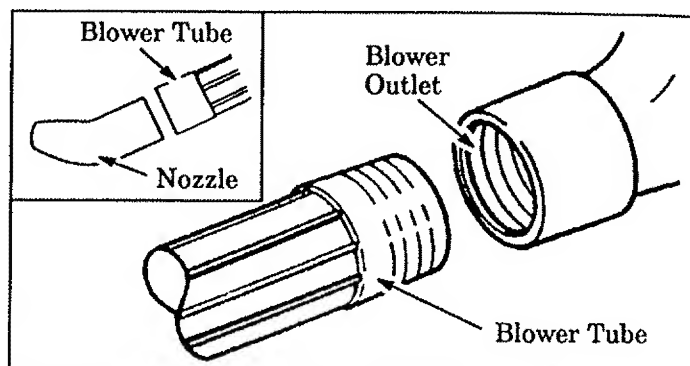
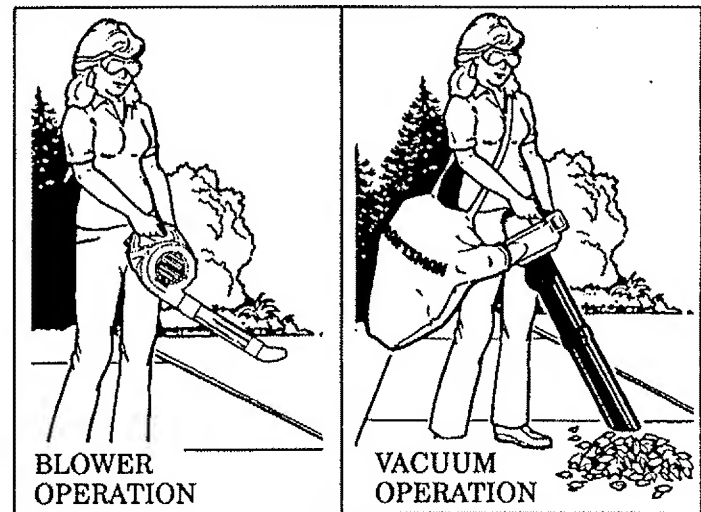

Figure 1
Figure 7
1. Insert blower tube into blower outlet. Turn blower tube clockwise until it is firmly seated. Figure 1.
2. With a slight twisting motion, slide the concentrator nozzle firmly into the end of the blower tube. Figure 1 (inset). The fully assembled unit should look like the one in Figure 7.
9. **Use the correct operating position.** Figure 7. Do not overreach or use from unstable surfaces such as ladders, trees, steep slopes, roof tops, etc. Keep firm footing and balance at all times.